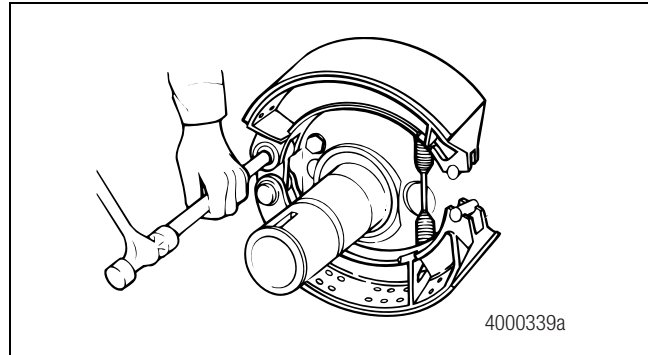

Figure 3.8
- Use a brass drift to remove the top anchor pin. Figure 3.8.